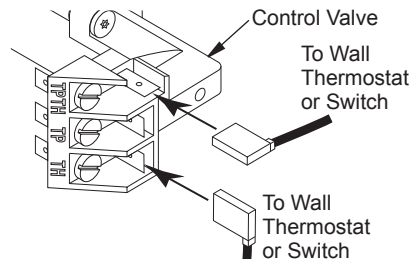

Figure 33 - Connecting Wire Terminals
2. Connect one terminal of 25 ft. wire to the "TH" terminal on the control valve. Connect the other terminal to the "THTP" terminal on the control valve. See Figure 33.
- Connect one terminal of 25 ft. wire to the "TH" terminal on the control valve. Connect the other terminal to the "THTP" terminal on the control valve. See Figure 33, page 19.